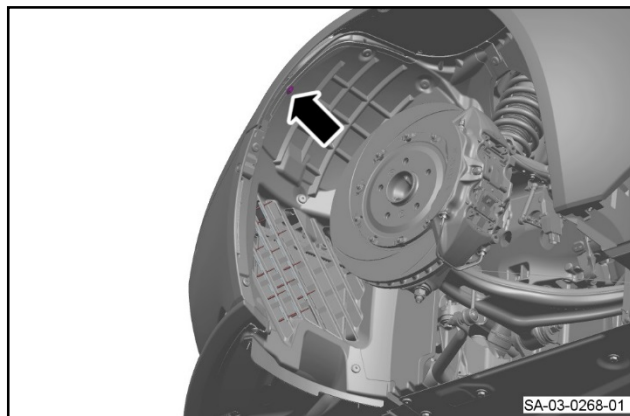

Figure 1
2. Remove the screw that attaches the front section of the front left side wheel arch liner (refer to Figure 1)